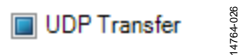

Figure 27. UDP On/Plot On Mode
- The UDP on/plot on mode, where the **UDP Transfer** checkbox fill is solid by selecting three consecutive times (see Figure 27). In this mode, the data is sent through the UDP and also displays in the graph.